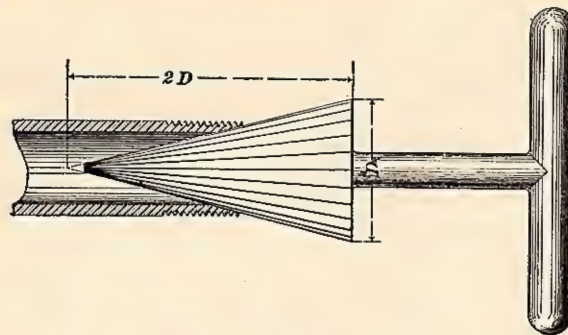

FIG. 18
22. **Reaming** is the process of removing the burrs from the cut ends of pipes. The tools used for this purpose are called **reamers**, and are conical in shape; if properly proportioned, the length of the reamer, or the altitude of the cone, will be about twice the diameter of the base, as shown in Fig. 18, which represents a **hand reamer**. The convex surfaces of reamers are formed into a series of sharp teeth